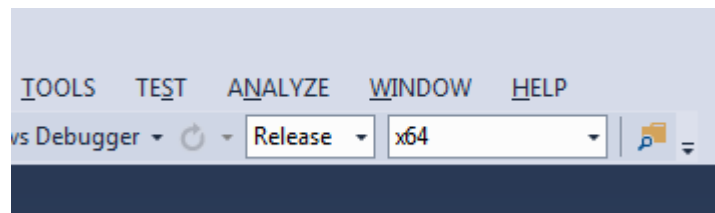

Figure 2 Build configuration of Visual Studio 2013
- 4) Choose **Release** and **x64** from the pull-down list as shown in Figure 2.